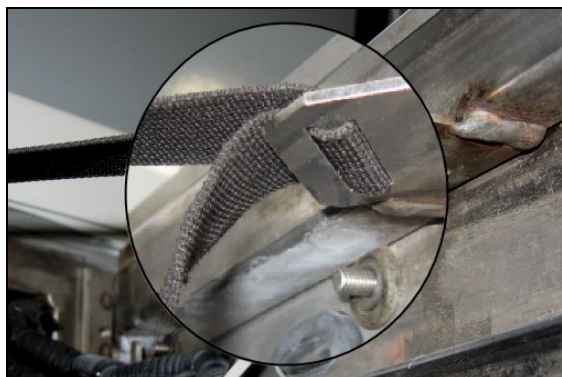

Fig.36
32. Reinstall the condenser door limiter strap (Fig.36).